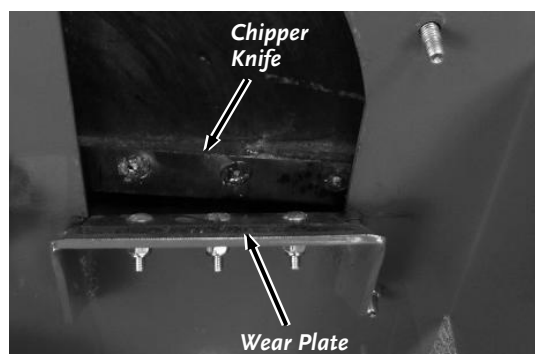

Figure 38
4. Closely inspect the Chipper Knife and Wear Plate for nicks or dull (rounded) edges (**Figure 38**).